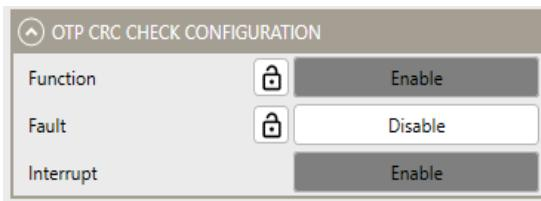

Figure 31: OTP CRC Check Configuration
23. Configure the one-time programmable (OTP) memory CRC check parameters. Figure 31 shows the OTP CRC Check Configuration settings in the GUI.